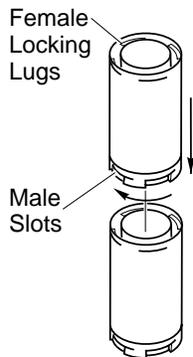

Figure 26 - Rigid Vent Pipe Connections
**Twist-lock Procedure:** The female ends of the pipes and fittings have locking lugs (indentations). These lugs will slide straight into matching slots on the male ends of adjacent pipes and fittings. (All connections must be sealed with high temperature silicone sealant as specified in the second warning statement on page 11.) Push the pipe sections together and twist one section clockwise approximately one-quarter turn until the sections are fully locked. See Figure 26, page 13. *Note:* Horizontal runs of vent must be supported every three feet. Use wall straps for this purpose.
2. Assemble the desired lengths of pipe and elbows necessary to reach from the burner system flue up through the firestop. All connections must be sealed with high temperature silicone sealant as specified in the second warning statement on page 11. Be sure all pipe and elbow connections are fully twist-locked (see Figure 26, page 13).